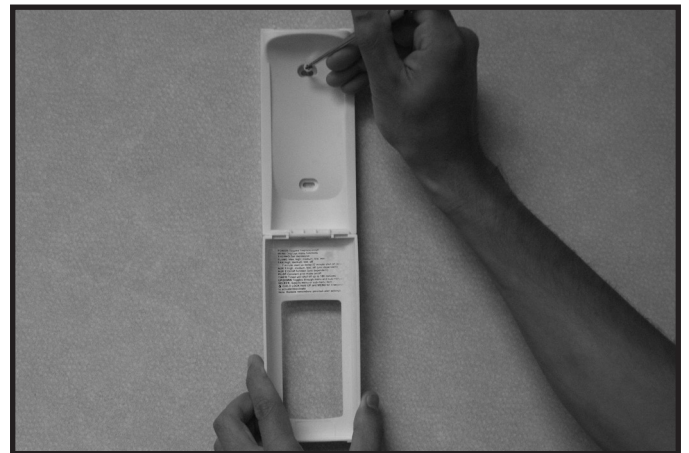

Figure 12.4 Mounting Remote Control Housing
3. Secure the remote control housing on a flat wall surface using the two screws and wall anchors provided. See Figure 12.4.